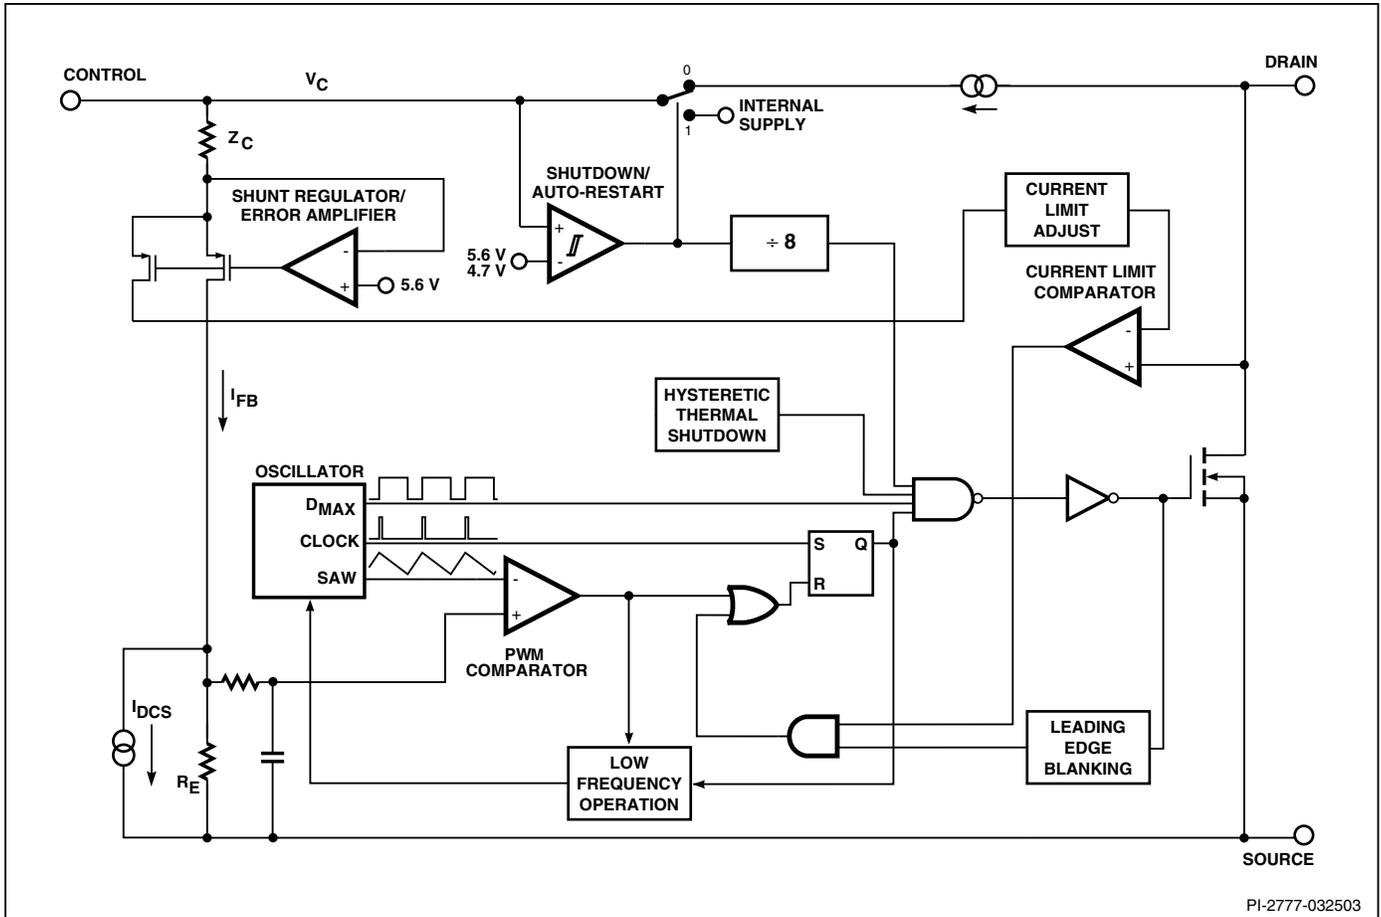
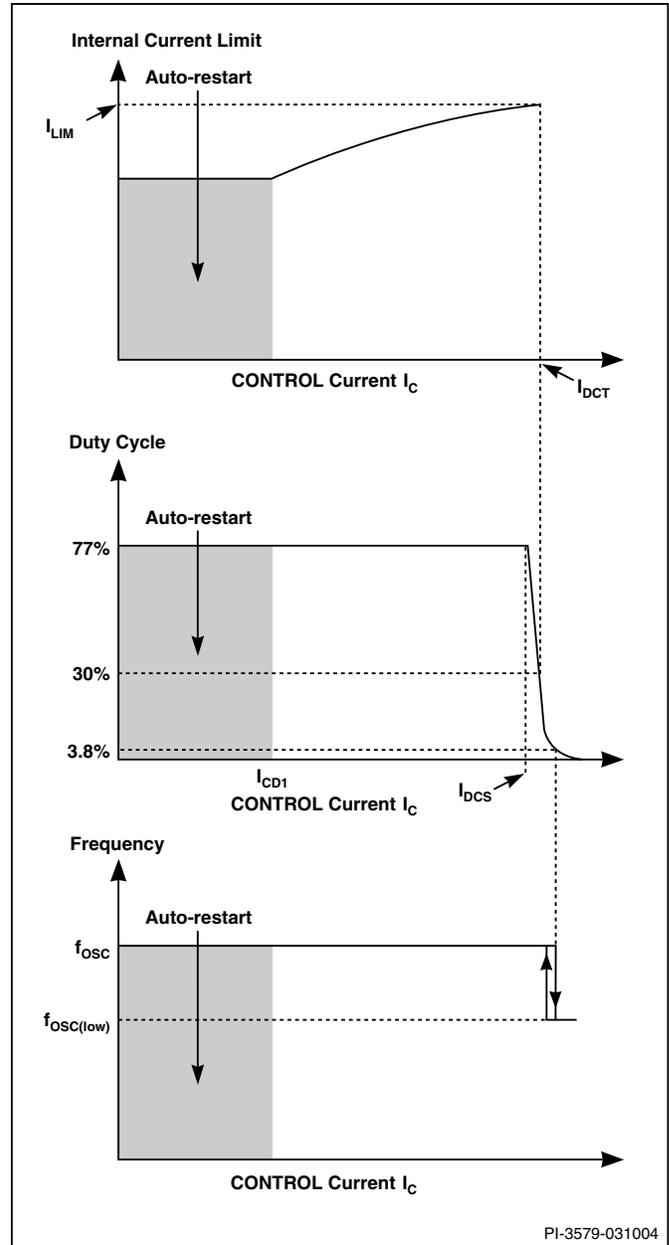
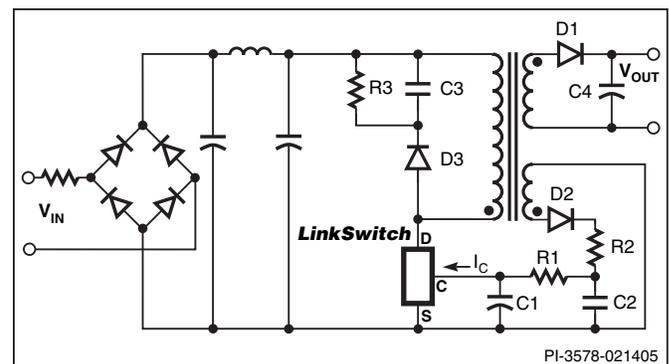
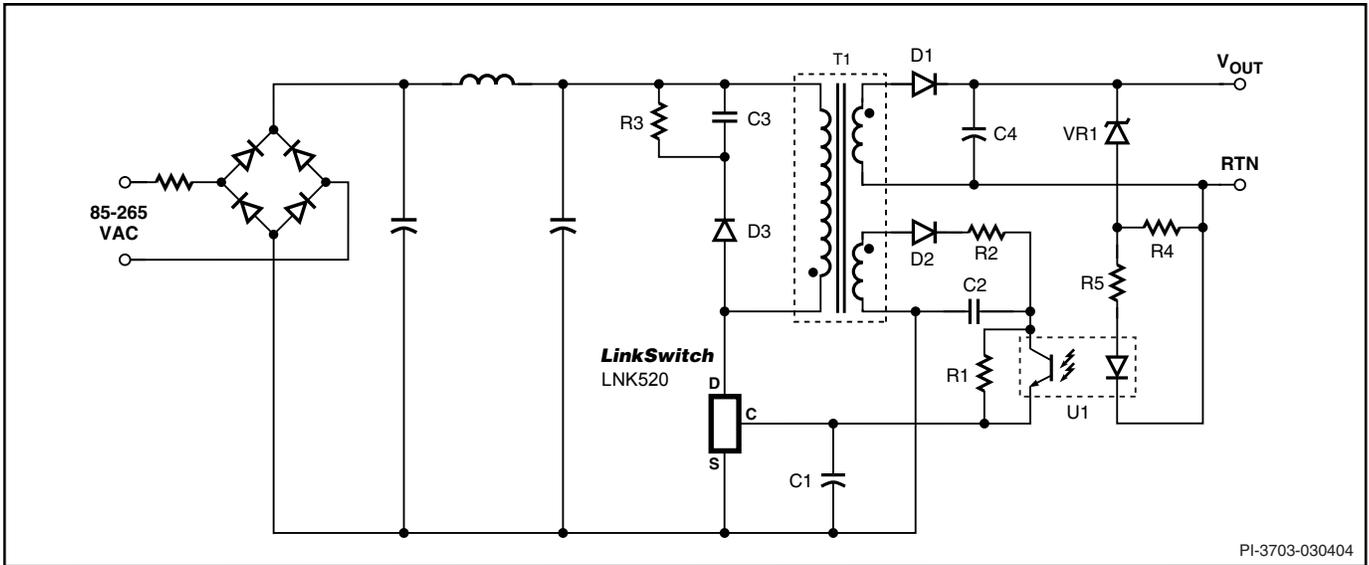

Figure 2. Block Diagram.
Figure 4. CONTROL Characteristics.
Figure 5. Power Supply Schematic outline.
Figure 6. Power Supply Schematic Outline with Optocoupler Feedback, Providing Tight CV Regulation.
The duty cycle, current limit and operating frequency relationships with CONTROL pin current are shown in Figure 4. Figure 5 shows a typical power supply schematic outline which is used below to describe the *LinkSwitch* operation.
During power up, as  $V_{IN}$  is first applied (Figure 5), the CONTROL pin capacitor C1 is charged through a switched high voltage current source connected internally between the DRAIN and CONTROL pins (see Figure 2). When the CONTROL pin voltage reaches approximately 5.6 V relative to the SOURCE pin, the high voltage current source is turned off, the internal control circuitry is activated and the high voltage internal MOSFET starts to switch. At this point, the charge stored on C1 is used to supply the internal consumption of the chip.
As the output voltage, and therefore the reflected voltage across the transformer bias winding ramp up, the feedback CONTROL current  $I_C$  flowing through R1 increases. As shown in Figure 4, the internal current limit increases with  $I_C$  and reaches  $I_{LIM}$  when  $I_C$  is equal to  $I_{DCT}$ . The internal current limit vs.  $I_C$  characteristic is designed to provide an approximately constant power supply output current as the power supply output voltage rises.
When  $I_C$  exceeds  $I_{DCS}$ , typically 2 mA (Figure 4), the maximum duty cycle is reduced. At a value of  $I_C$  that depends on power supply input voltage, the duty cycle control limits *LinkSwitch* peak current below the internal current limit value. At this point the power supply transitions from CC to CV operation. With minimum input voltage in a typical universal input design, this transition occurs at approximately 30% duty cycle. Resistor R1 (Figure 5) is therefore initially selected to conduct a value of  $I_C$  approximately equal to  $I_{DCT}$  when  $V_{OUT}$  is at the desired value at the minimum power supply input voltage. The final choice of R1 is made when the rest of the circuit design is complete. When the duty cycle drops below approximately 4%, the frequency is reduced, which reduces energy consumption under light load conditions.
Figure 6 shows a typical power supply schematic outline using *LinkSwitch* with optocoupler feedback to improve output voltage regulation. On the primary side, the schematic only differs from Figure 5 by the addition of optocoupler U1 transistor in parallel to R1.
When the power supply operates in the constant current (CC) region, for example at start up and when charging a battery, the output voltage is below the voltage feedback threshold defined by U1 and VR1 and the optocoupler is fully off. In this region, the circuit behaves exactly as previously described with reference to Figure 5 where the voltage across C2 and therefore the current flowing through R1 increases with increasing output voltage and the *LinkSwitch* internal current limit is adjusted to provide an approximate CC output characteristic.
When the output reaches the voltage feedback threshold set by U1 and VR1, the optocoupler turns on. Any further increase in the power supply output voltage results in the U1 transistor current increasing. The resulting increase in the *LinkSwitch* CONTROL current reduces the duty cycle according to Figure 4 and therefore, maintains the output voltage regulation.
At very light or no-load, typically less than 2 mA of output current, the output voltage rises due to leakage inductance peak charging of the secondary. This voltage rise can be reduced with a small preload with little change to no-load power consumption. The output voltage load variation can be improved across the whole load range by adding an optocoupler and secondary reference (Figure 6). The secondary reference is designed to only provide feedback above the normal peak power point voltage to maintain the correct constant current characteristic.